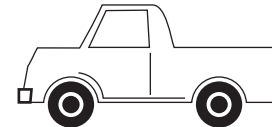

Figure 11: Control Vehicle
7. Thread the string through each pulley and attach the other end of the kite string to the center front of the control vehicle (figure 11) in the same location as first vehicle.